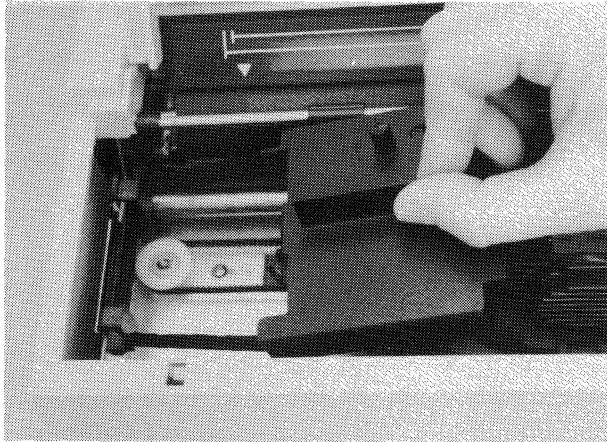
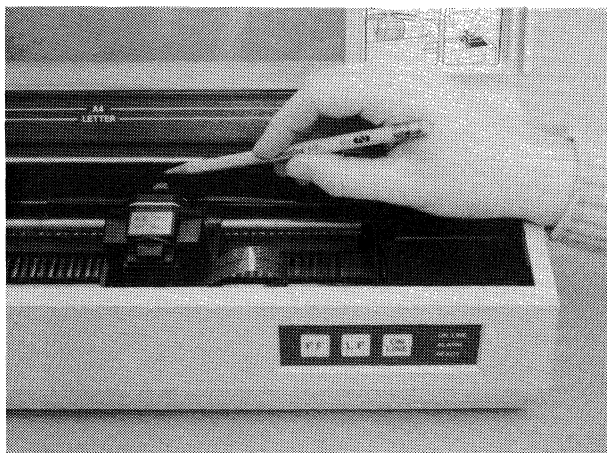

Figure 2-3A Looping the Ribbon onto the Left Ribbon Guides
Figure 2-3C Inserting Ribbon at Print Head
The following procedure allows the operator to install (or change) the ribbon without soiling the hands. However, using the pencil (Figure 2-3C) may be omitted if desired. Refer to Figures 2-3A, B, C, D.
2. Holding the ribbon cassette by the ridge as shown in Figure 2-3A, loop the ribbon onto the two left ribbon guides.
5. Using a pencil as shown in Figure 2-3C, place the ribbon between the print head and the shiny ribbon guide. The ribbon should **NOT** be on the platen side of the guide.